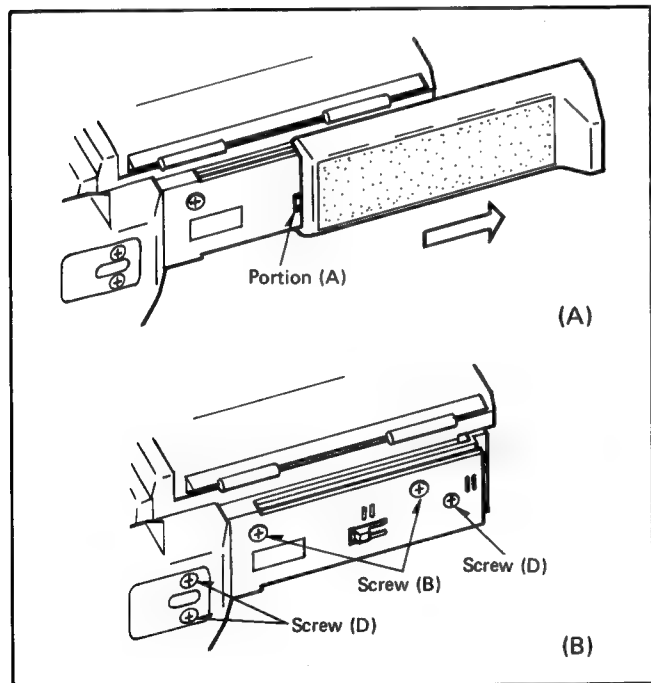

Fig. 1
Then, press the portion (A) and move the shoulder slide to the rear as shown in Fig. 1-A.
Unscrew 2 screws (B) (see Fig. 1-B).
4. Unscrew 3 screws (D) and remove the shoulder assembly from the camera head (see Fig. 1-B).
2. Aim the camera at the infrared ray position chart and observe the picture on the TV monitor (B). The center point of the infrared ray position chart must be located on the center of the TV monitor screen.
3. Then, aim the infrared rays detect camera at the infrared ray position chart and observe the picture on the TV monitor (A).
4. And adjust the LED horizontal position and LED vertical position so that the infrared ray is hit the circle ($\phi 110$) as shown in fig. 1-(b), TV monitor (A). (Irradiated position is less than the circle ($\phi 110$)).